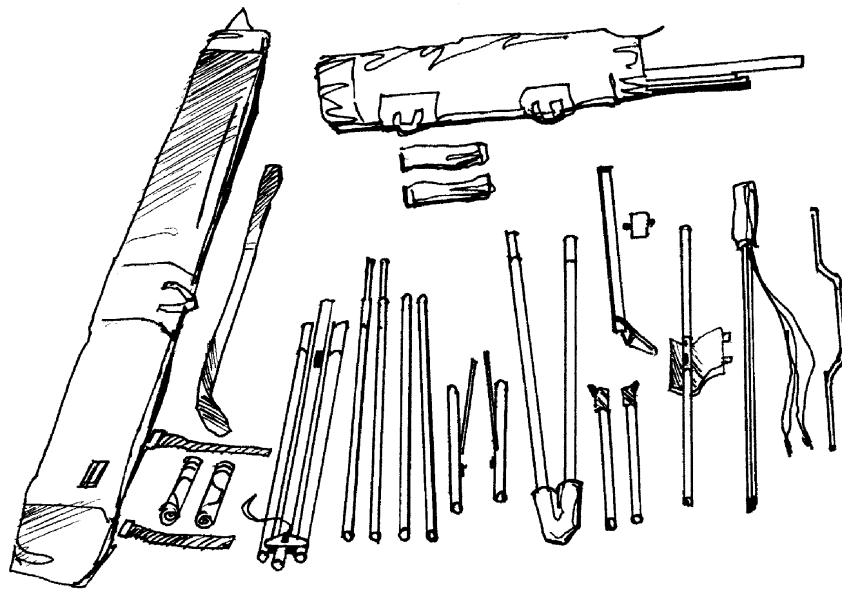

Fig.1
2.1.3. Place completing parts of the frame with comfort (Fig.1). Undo the zipper on the bag and move the sail.